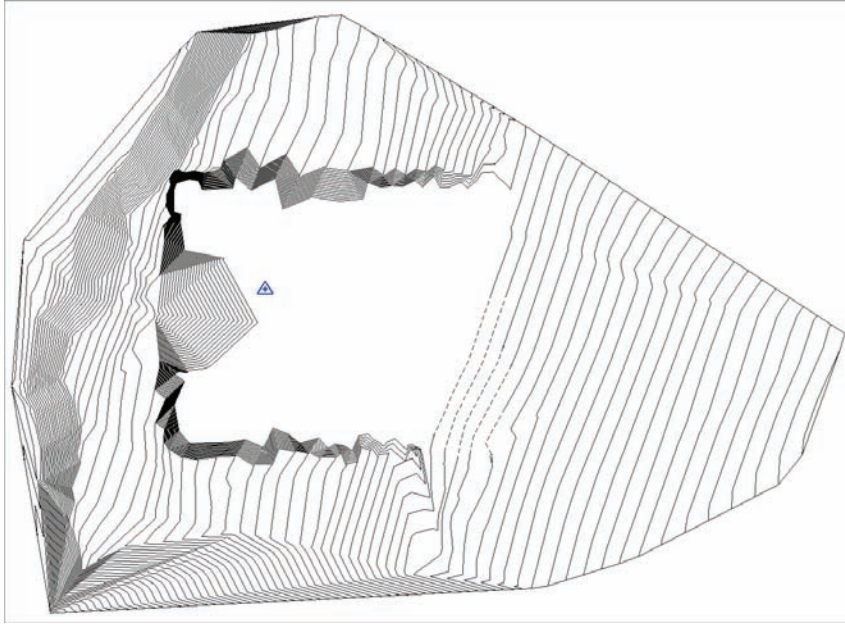

FIGURE 18.38 The site with cuts and fills
13. Verify that your site appears similar to Figure 18.38.